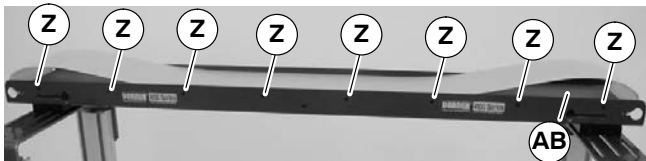
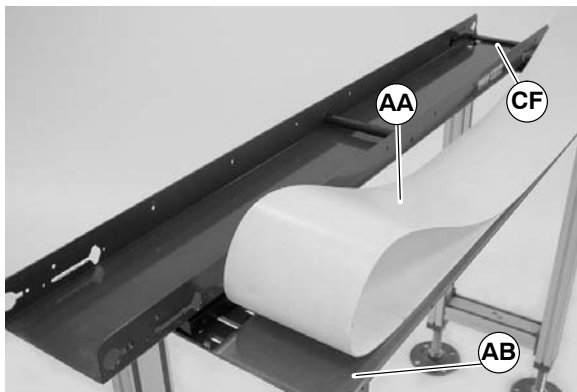

Figure 13
Figure 14
4. Remove screws (Z of Figure 13) on both sides of conveyor and remove bed plate (AB).
5. Remove belt (AA of Figure 14) from bed plate (AB).
1. Insert belt (AA of Figure 14) inside frame. Orient belt so belt splice leading finger (AD of Figure 15) points in direction of travel (AE) and trailing finger (AC) is as shown. Belt must run toward bottom wiper (CF of Figure 14).
2. Insert bedplate (AB of Figure 14) inside belt loop.
3. Attach bedplate (AB of Figure 14) to conveyor frame with screws (Z of Figure 13). Tighten screws to 14 in-lbs.